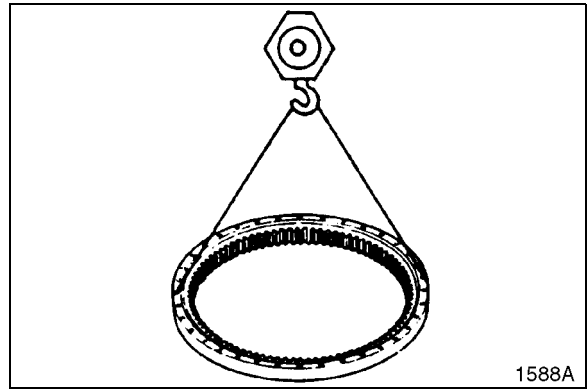

Figure 5
- Lift outer ring and check that inner ring can move freely. See Figure 5, if not, replace seal (3, Figure 4) and/or seal (4, Figure 4).